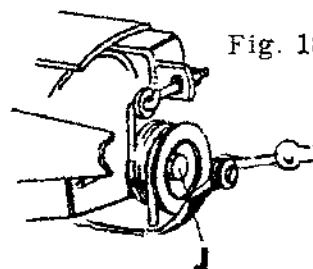

Fig. 18
Set tension on torsion spring (J) by tightening eyebolt until most of the weight on outer shoe is removed. If torsion spring is loose, sickle bar will be hard to lift. If torsion spring is set too tight, outer end of sickle bar will have a tendency to bounce in operation. (Fig. 18)
WEAR PLATE ADJUSTMENT (Fig. 18)
KNIFE CLEARANCE (Fig. 18)